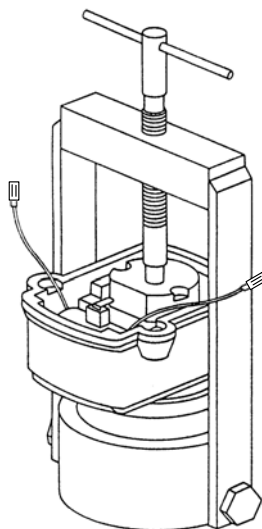

Figure 9.3A
- D. Turn T-handle until the bearing cap (11) bottoms in the frame (8).
- E. Place T117 base adapter plate on T125 assembly fixture. Place magneto frame (8) in T117 base adapter plate.
- F. Place T151 cam and rotor set onto the end of the rotor shaft (10) and turn T-handle until the shaft (10) bottoms in magneto frame (8). (See Figure 9.3A).